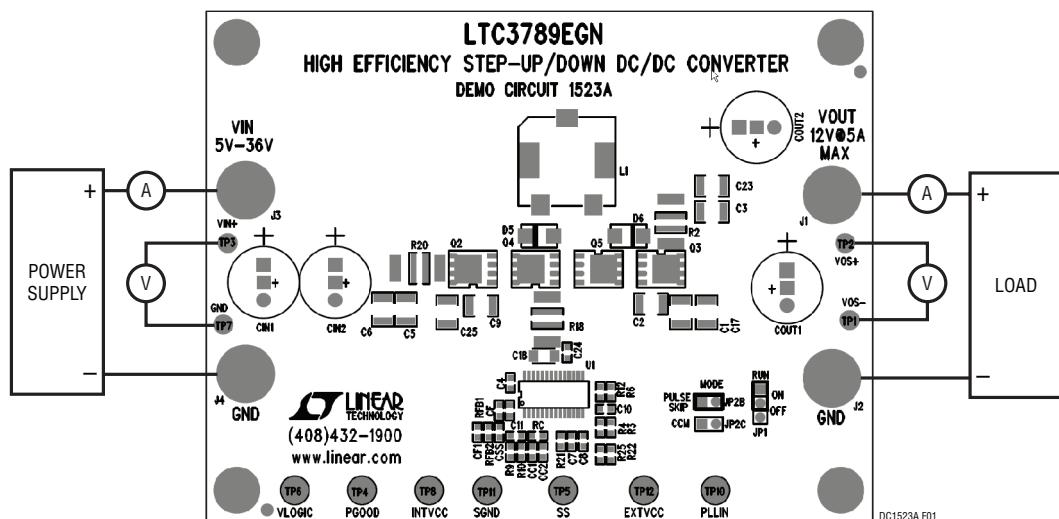

Figure 1. Proper Measurement Equipment Setup
Demonstration circuit 1523A is easy to set up to evaluate the performance of the LTC3789EGN. Please refer to Figure 1 for proper measurement equipment setup and follow the procedure below.
- With power off, connect the input supply, load and meters as shown in Figure 1. Preset the load to 0A and VIN supply to 0V.